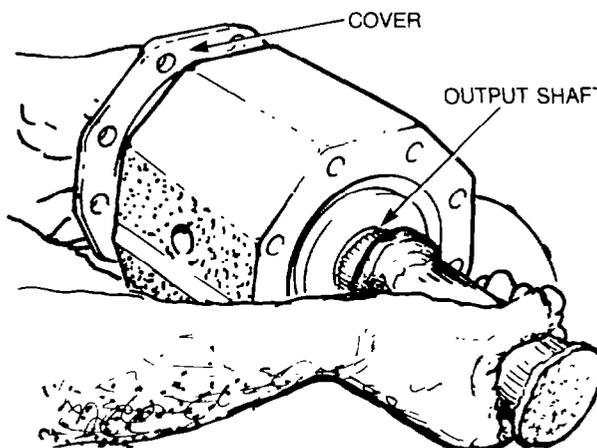

Figure 297 — Tapping Output Shaft
- c. Clean the exposed portion of the output shaft to prevent damaging the bearing, then using a soft hammer tap on the end of the shaft to loosen the cover (see Fig. 297).